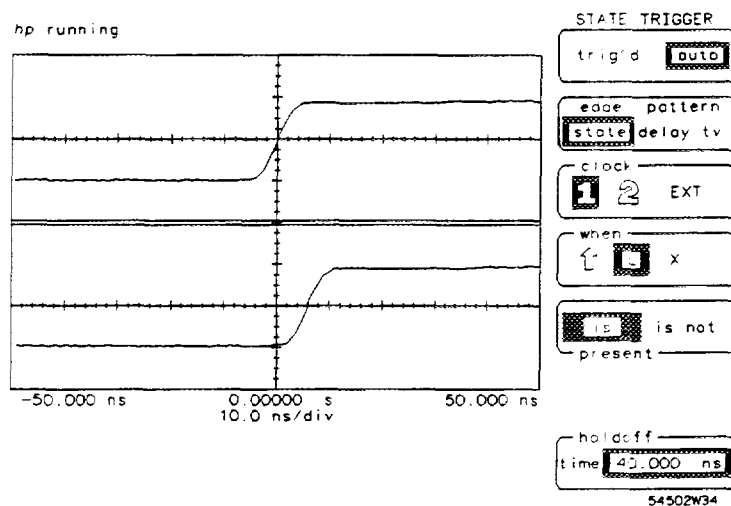

Figure 6-11. Channel 1 Clock LX State
- Press the when key until **present** is selected (see Figure 6-11).